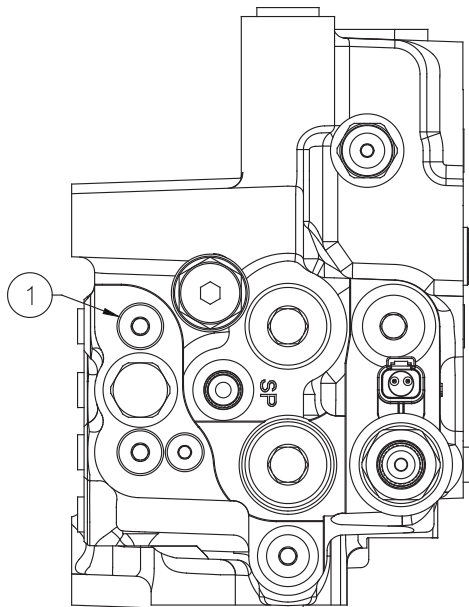

FIGURE 1
These instructions are to be used to replace spool (2) and plug (1) with a new spool (2) and a new plug (1). These instructions are used to service several accumulator charging valve part numbers which may appear slightly different than what is shown in Figures 1 and 2.
NOTE: Prevent contamination to the accumulator charging valve and hydraulic system. Thoroughly clean the valve and surrounding area of all dirt, grease, oil, etc. before servicing. See Figure 1 and locate plug (1) on the valve while the valve is still installed on the machine.